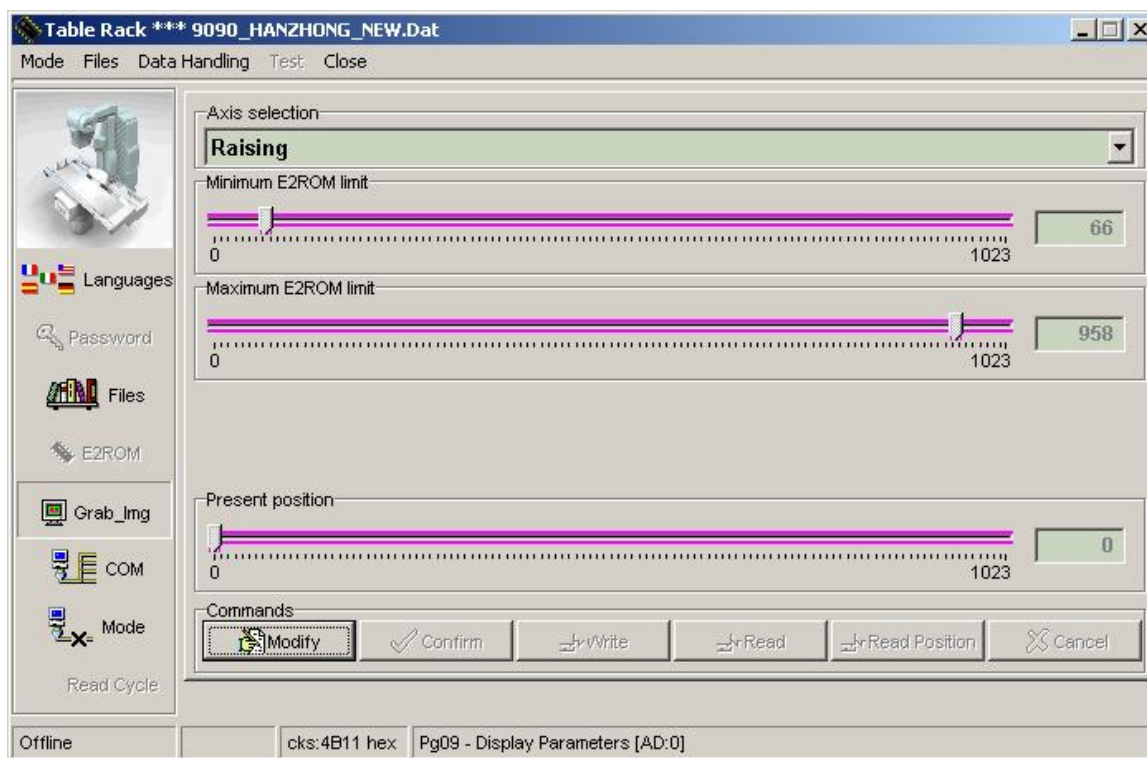

fig.3.3
- Select "Write" (see fig. 3.3).
- ·Select "*Write*" (see fig. 3.3).